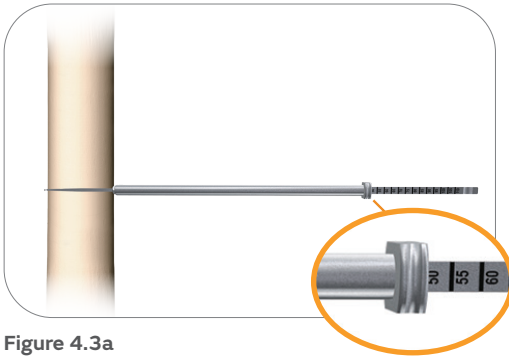

Figure 4.3a
- a) Removing the 4.3mm Short Drill (72800144S), and 4.3mm Drill Sleeve (72502025), using the Screw Depth Gauge (72502027) to hook the far cortex, pushing the outer sleeve of the Screw Depth Gauge to bone and reading the markings (Figure 4.3a).